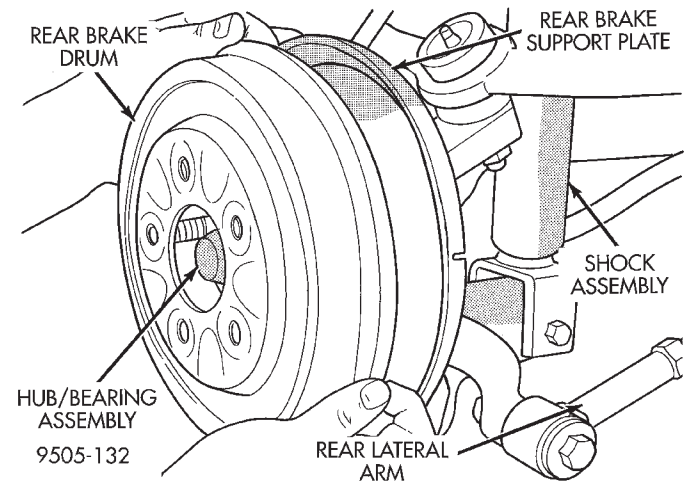
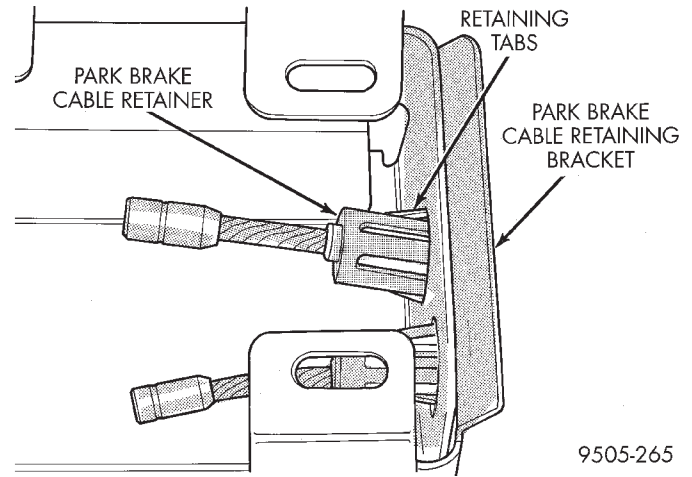

Fig. 154 Rear Brake Drum
Fig. 162 Park Brake Cable Installed In Console Bracket
(15) Raise vehicle on jackstands or centered on a frame contact type hoist. See Hoisting in the Lubrication and Maintenance section of this manual for the required lifting procedure to be used for this vehicle.
(16) Remove rear wheel and tire assembly from the side of the vehicle requiring park brake cable service.
(17) Remove the rear brake drum (Fig. 154) from the rear hub/bearing assembly.
(7) Install rear brake drum on hub/bearing assembly (Fig. 154).
(8) Install rear wheel and tire assembly on vehicle. Tighten all wheel stud nuts in crisscross pattern to one-half specified torque. Then repeat pattern, fully tightening stud nuts to 129 N·m (95 ft. lbs.).
(9) Lower vehicle.
(10) Grasp park brake cable to floor pan seal grommet by hand, and pull it into floor pan to ensure seal grommet is fully seated into floor pan.
(11) Route park brake cable under carpeting and up to park brake cable hole in console bracket on floor pan. Then install park brake cable into console bracket (Fig. 162). Be sure tabs (Fig. 162) on park